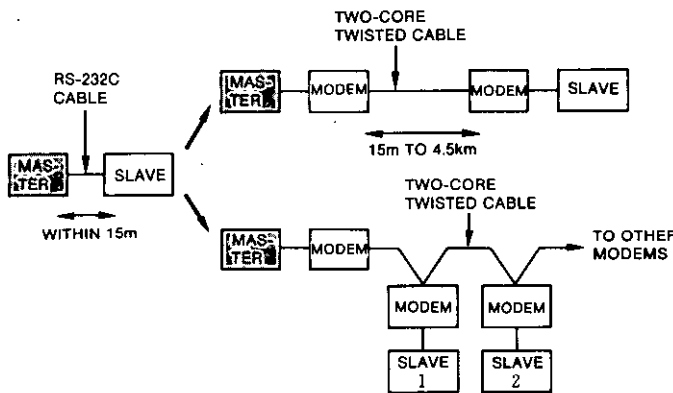

Fig. 3.5
(2) No modem is necessary when only one slave unit is involved and is not more than 15 meters from the master unit. Modems become necessary when more than one slave unit is involved or when one is more than 15 meters from the master unit, Fig. 3.5